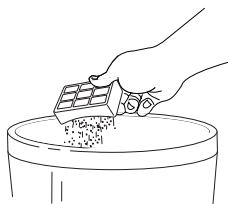

Fig. 23
- 3 Turn the filter over so that the dirty side is on the bottom and vigorously tap it clean against a garbage can to remove any dust. (Fig. 23)